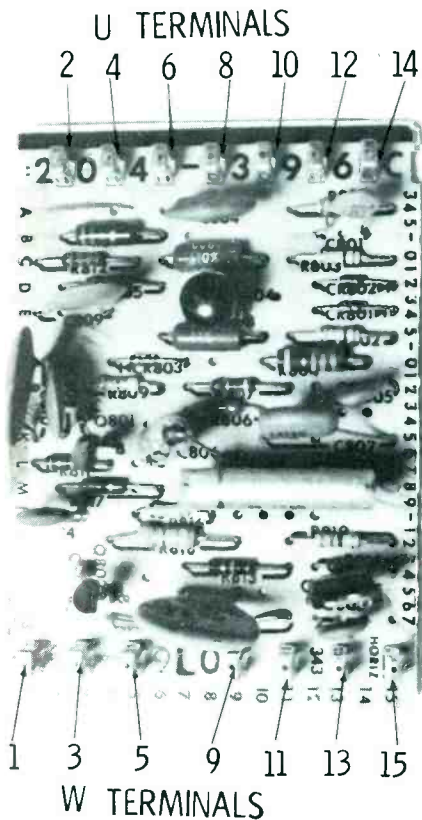

Fig. 5 Plug-in connections are divided into "even" "U" and "odd" "W" terminals at opposite ends of the module.
- adjust the RF AGC Delay between the points giving snow or adjacent-channel interference. See Figure 5 for an example of such interference.
So many numbers appear on the modules that it's difficult to locate the ones for the plug-in terminals. Figure 5 shows the correct numbers and locations, with the board rotated in the same direction it is when plugged into the chassis. Notice that all the "U" (even) numbers are along the "top" edge; and the "W" (odd) numbers are along the "bottom" edge. In some cases the "U" or "W" might be obscured partially.